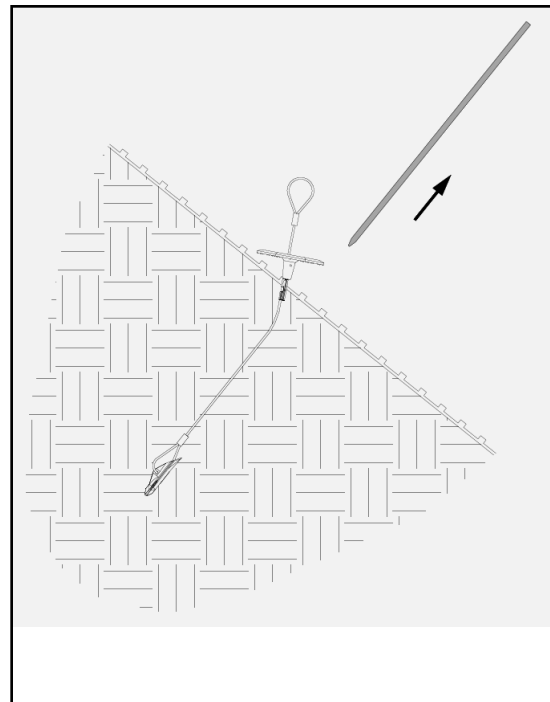

Figure 8: Remove Drive Steel from Ground
3. Remove the drive steel from the ground. (Figure 8) Depending on soil conditions, this may require the use of a setting tool or metal bar for leverage.